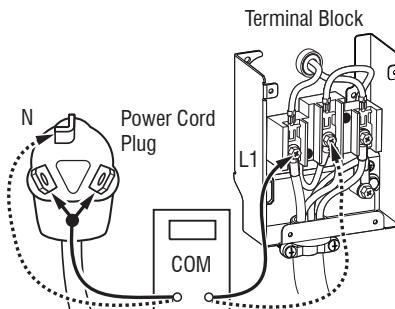

Figure 4a - Plug-to-terminal connections for electric dryer
- 3. With an ohmmeter, check for continuity between the neutral (N) terminal of the plug and the center contact on the terminal block. See figure 4a.**
- 4. In a similar way, check which terminal of the plug is connected to the left-most contact on the terminal block and make a note of it. This will be L1 (black wire) in the wiring diagram. Follow the same procedure for L2 (red wire). See figure 4a.**